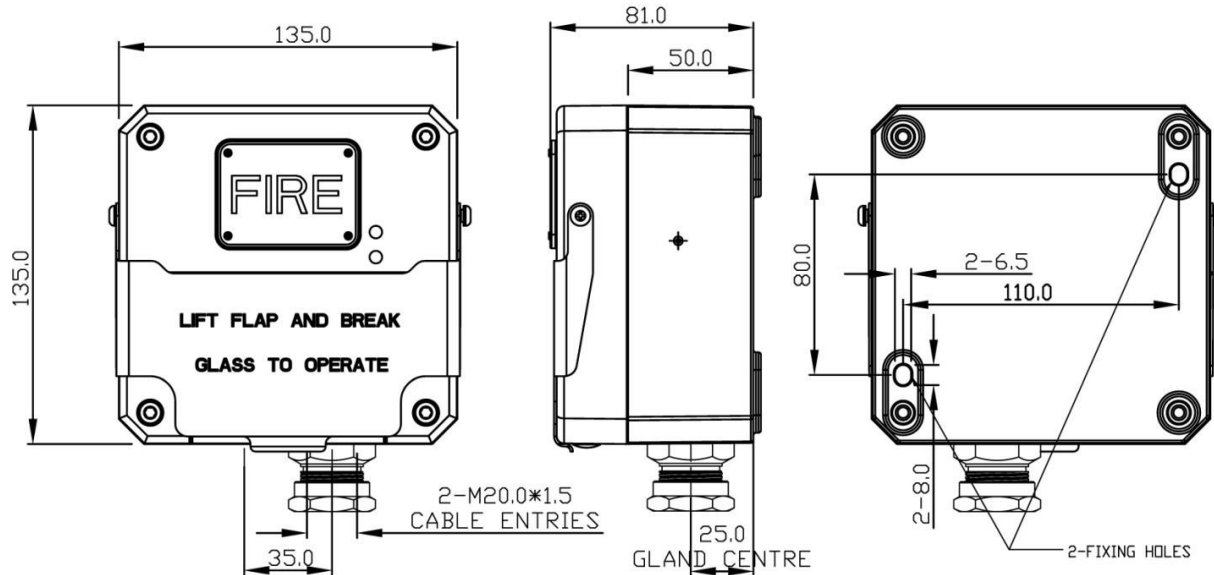

Fig.1
The product should be mounted on a vertical surface using two (2) fixing holes in the base by removing the end cover. The fixing holes are designed to fit M5 Allen Screw only. Use of stainless steel fastener is recommended by BARTEC TECHNOR. If you need mounting plate, please contact BARTEC TECHNOR to ask the installation drawing of the mounting plate. (See Fig 1)